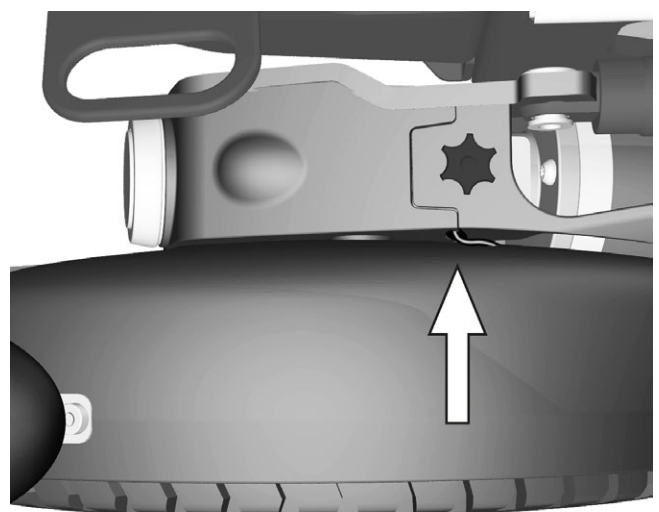

Figure 25. After connecting, push the cables and connectors into the slot, i.e. hide the connectors inside the drive gear cover.
4. On wheelchairs with lights, connect the lights cable to the cable positioned in the slot on top of the driver gear cover. After connecting, push the cables and connectors into the slot, i.e. hide the connectors inside the drive gear cover. See fig. 25.